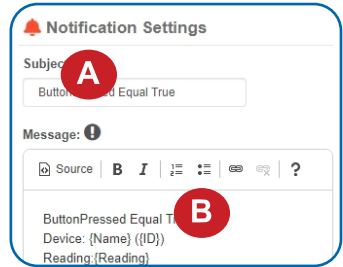

Figure 19
- A. Input the subject for the notification. See Figure 19.
- B. Customize the message body for the notification. See Figure 19.